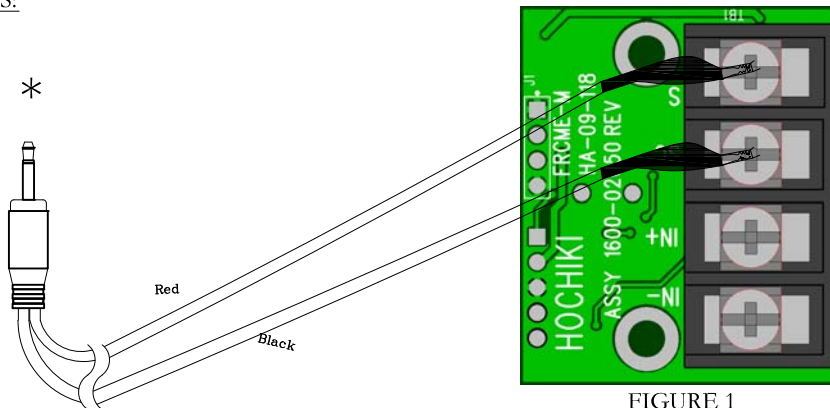

FIGURE 1
To program the FWC-FSLC-EZM1B, connect the red alligator clip to the S(IN) terminal and the black alligator clip to the SC(IN) terminal (see figure 1). For proper address setting, polarity must be observed.